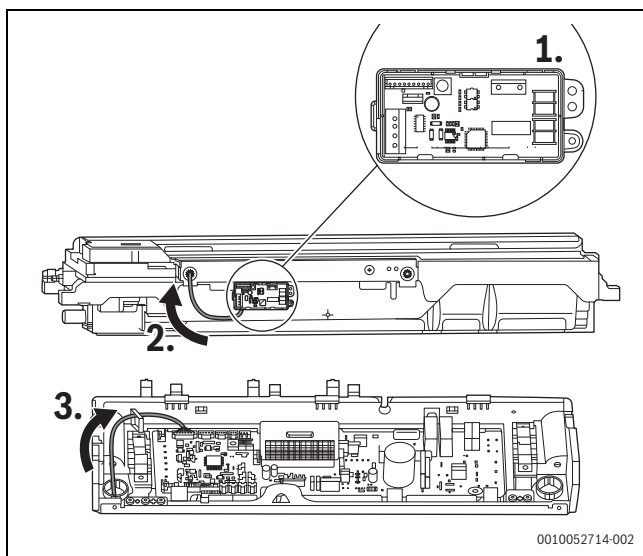

Fig. 3
3. Secure the communication kit using 10 ST3.9 screws, and thread the connecting wire through the low voltage hole to the corresponding extend CN18 end of the motherboard (Fig. 3).